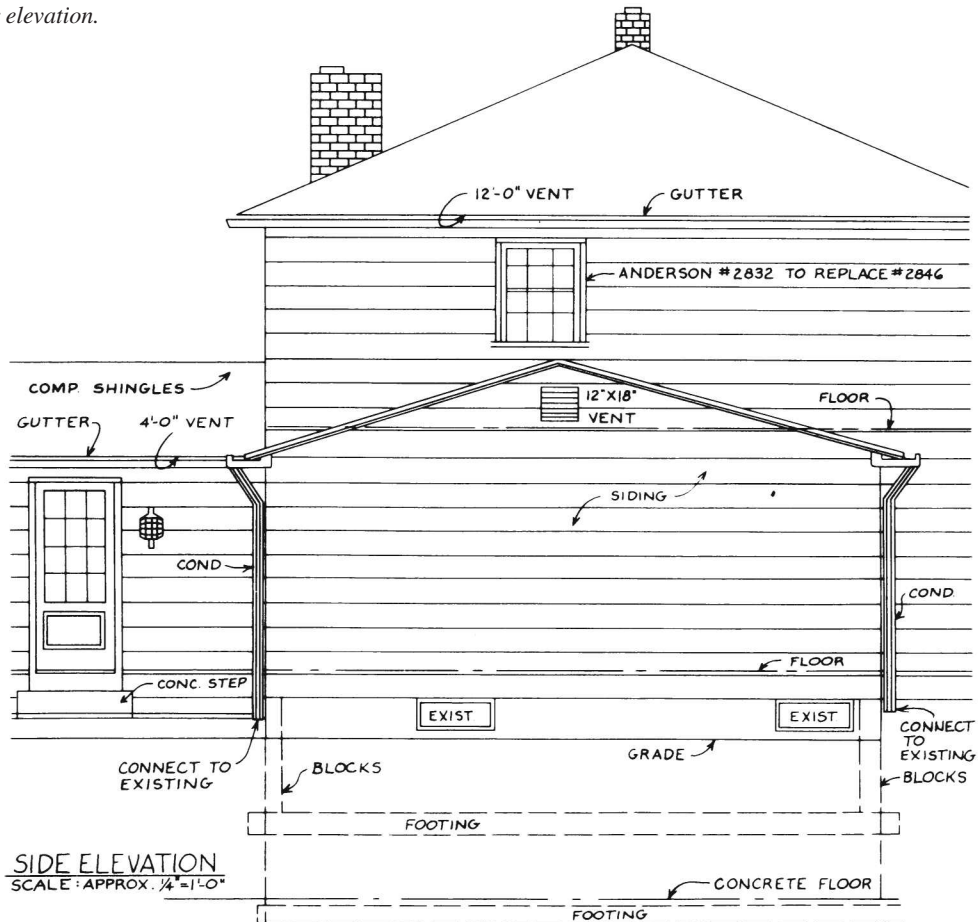

Fig. 17-100 Side elevation.
- Replace existing window with Anderson No. 2832 and fir in. (See Fig. 17-100. Note size difference of windows.)